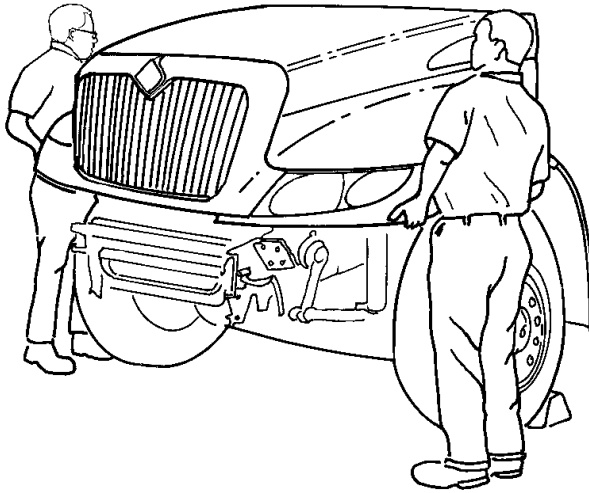

Figure 17 Remove and Install Hood
9. With an assistant, remove the hood assembly (Figure 17). Place the hood on an appropriate padded surface to protect painted surfaces.